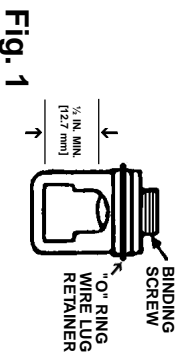

Fig. 1
2. Adjust binding screw to ½ in. min. opening as shown Fig. 1.